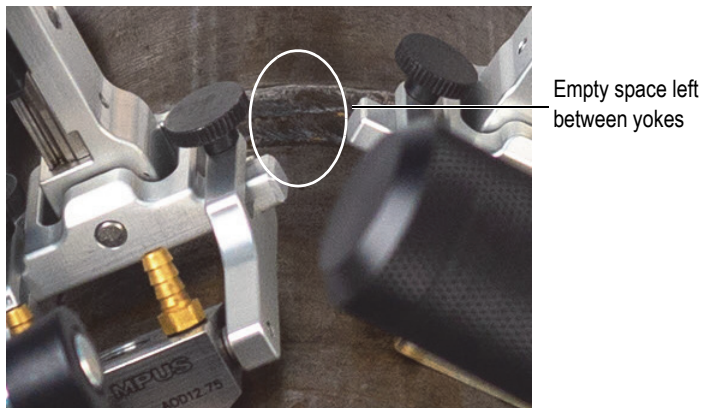

Figure 2-4 Yokes must not be in contact with each other
5. When using the HSMT-Flex scanner on smaller pipes, verify that the yokes are not in contact with each other (Figure 2-4 on page 39).